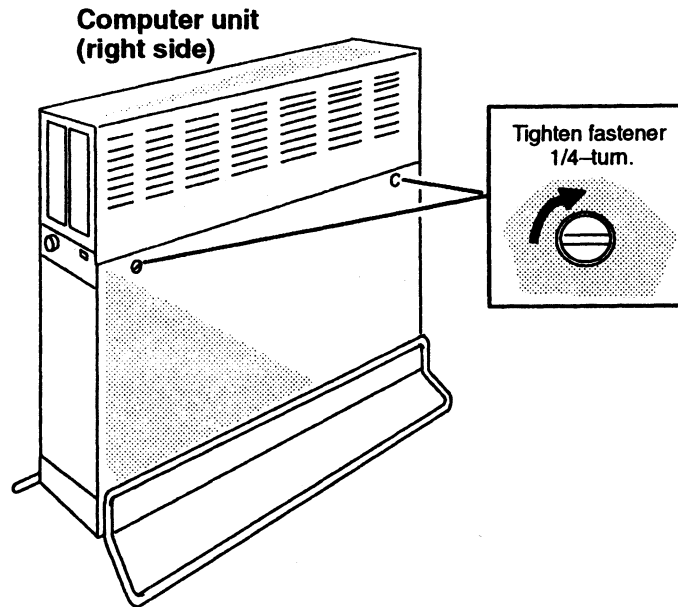

Figure 5-12 Tightening the Side Cover Fasteners
4. Using a coin or screwdriver, turn the two fasteners one-quarter turn clockwise as shown in Figure 5-12 to lock the cover in place.